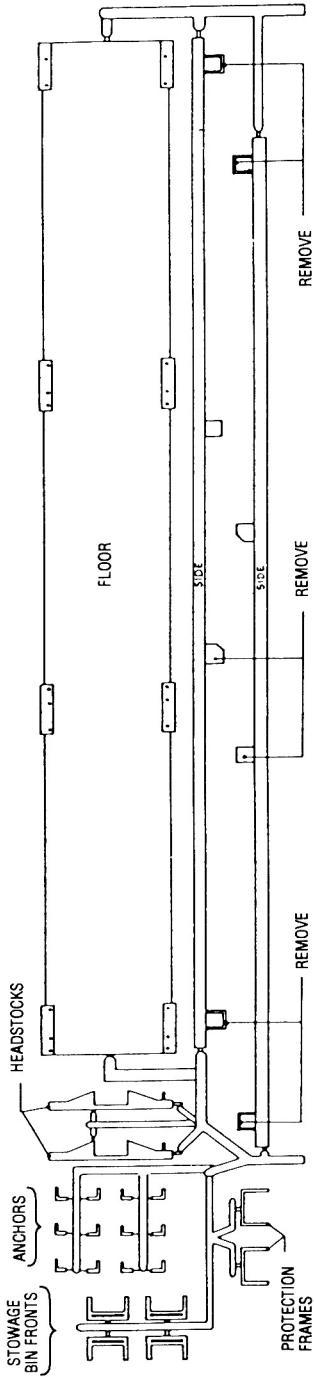
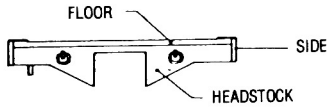

Figure 1
Figure 3
Figure 1 identifies the components on the wagon sprue.
1. Remove sides, headstocks and floor from sprue and clean up as detailed above. Cut off all moulding pips; and the stirrup steps and brackets shown in Figure 1. Test fit the sides and headstock to the floor, trimming if necessary for the best fit. The headstock and floor fit between the sides. Refer to Figure 3 for the way in which the parts fit together. Glue the parts together when a satisfactory fit has been achieved.